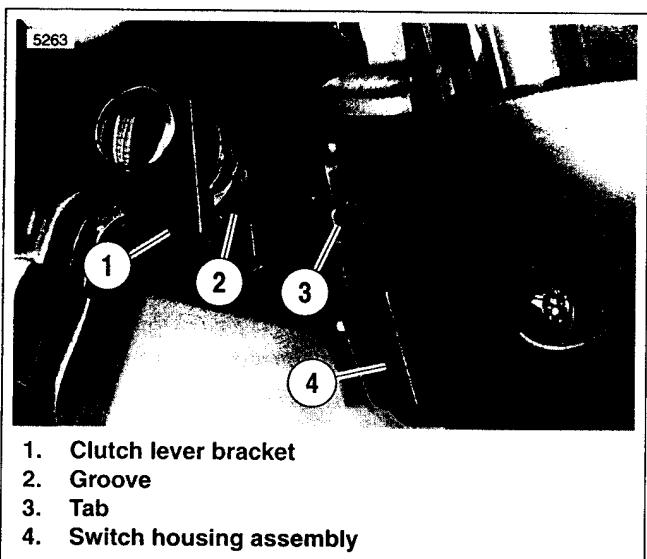

Figure 8-85. Clutch Lever Bracket
5. See Figure 8-85. Position the clutch hand lever assembly inboard of the switch housing assembly, engaging the tab (3) on the lower switch housing in the groove (2) at the bottom of the clutch lever bracket.